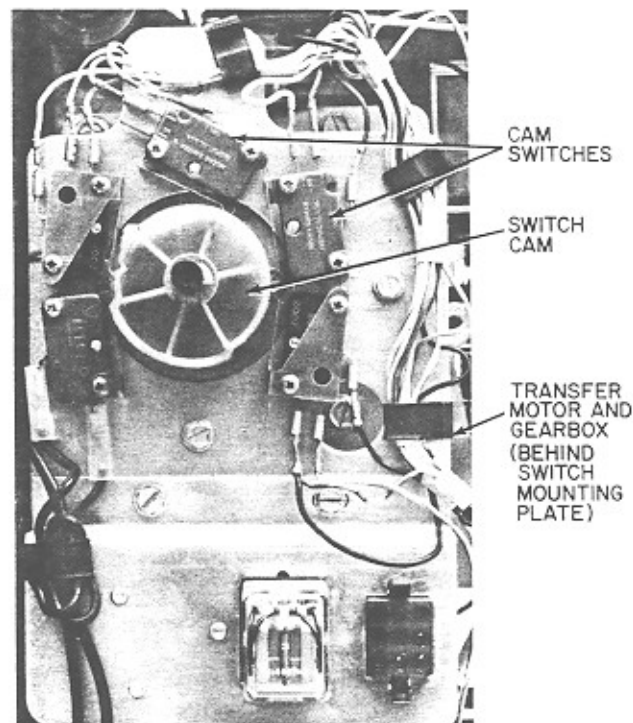

FIGURE 3-16. CAM SWITCH AND MOTOR ASSEMBLY COMPONENTS
**Cam Switch and Motor Assembly.** (See Figure 3-16) The cam switch and motor assembly consists of the transfer motor and gear box, a switch cam, and five cam switches. A nylon cam operates cam switches CS-1 through CS-5. The function of each switch is described in Table 3-4.